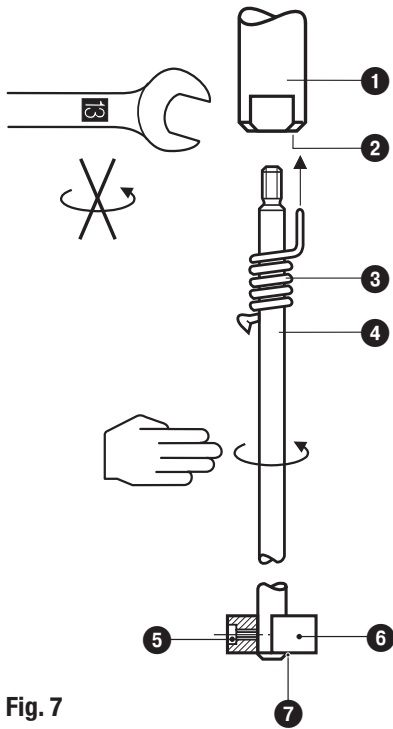

Fig. 7
1. Screw electrode tip ④ into measuring electrode ①, **Fig. 7**
3. Mark length of electrode tip ④.
4. Unscrew electrode tip ④ from measuring electrode ① and cut tip.
5. Screw electrode tip ④ into measuring electrode ① and tighten. Slide spring ③ along electrode tip ④, so that its bent end completely enters into small bore ②.
6. If a measuring surface extension is required slip disk ⑥ onto electrode tip ④ ensuring that the electrode tip protrudes 2 mm from disk. Fasten disk with grub screw ⑤. Push retaining ring ⑦ over electrode tip against disk ⑥.